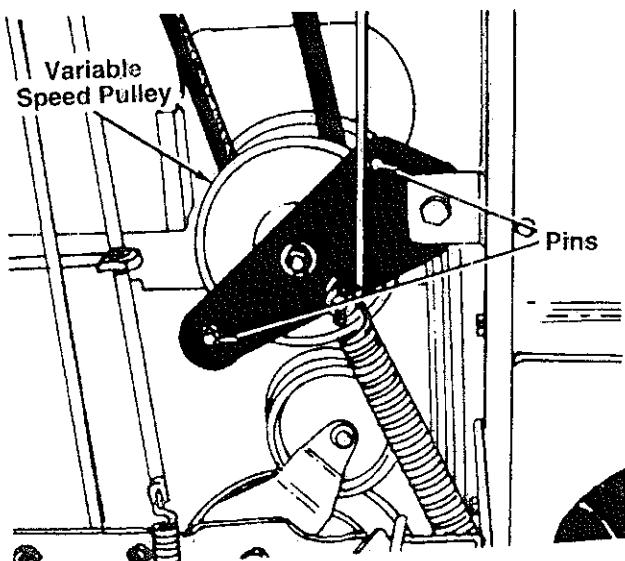

FIGURE 24
- NOTE:** When reassembling, make certain belt is inside the pins. See figure 24.